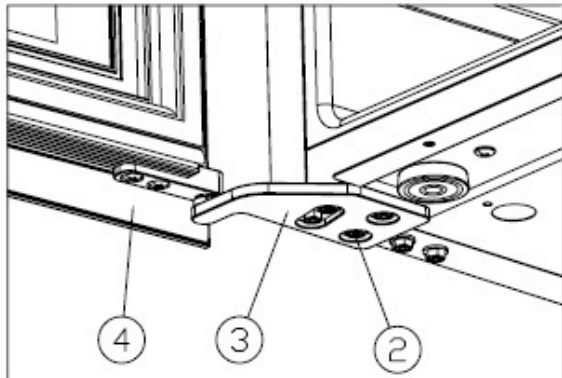

Figure 5
- ✧ Install the right upper hinge at the lower left side ③ and tighten the M5\*16 screws②.[Figure 5]